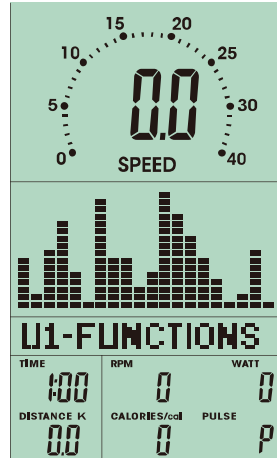

FIGURE 27
4. After start training (FIGURE 27~29), TIME will be counted down. When TIME is counted to 0, the screen is flashing and the alarm is ringing. User can press any button to stop the alarm.